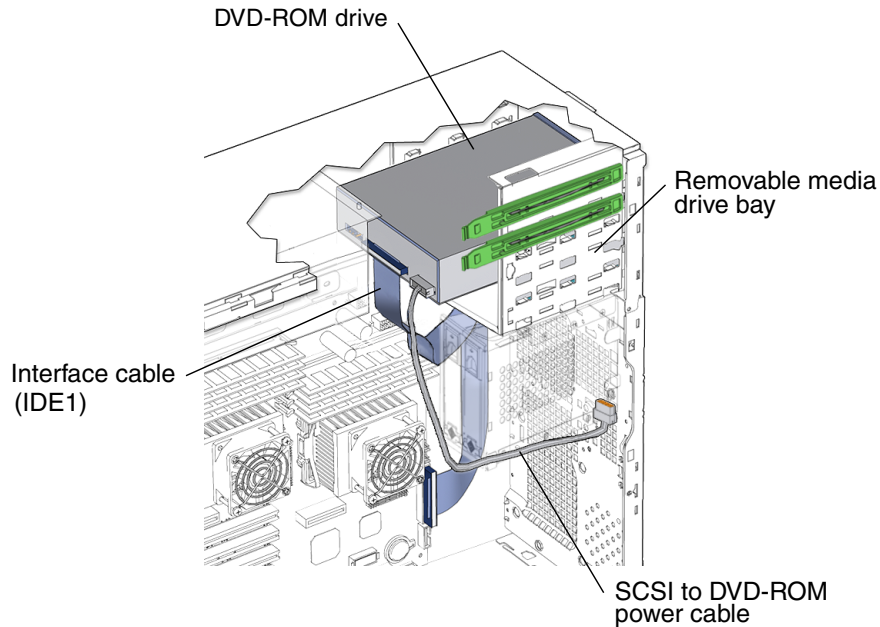

FIGURE 12-8 DVD-ROM Drive Interface and Power Cables
3. **Disconnect the interface cable(s)** (FIGURE 12-8).
9. Connect the DVD-ROM drive power cable (FIGURE 12-8).
10. Connect the DVD-ROM drive interface cable (FIGURE 12-8).